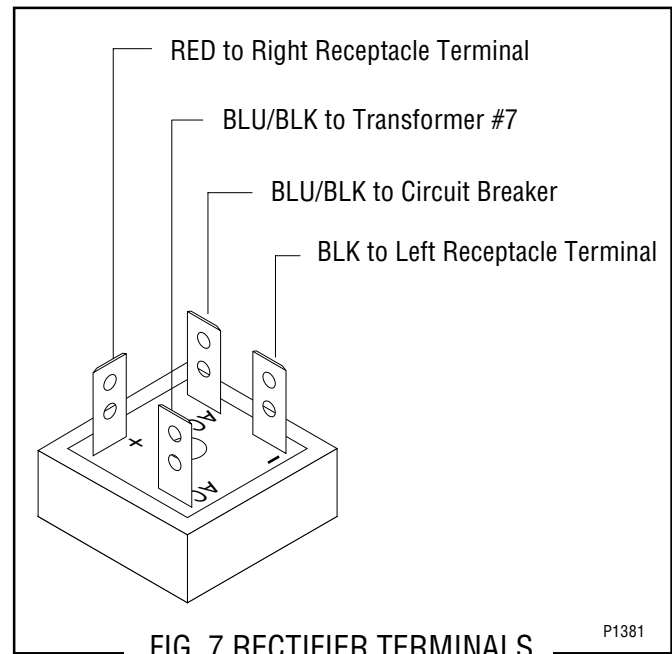

FIG. 7 RECTIFIER TERMINALS
5. Refer to Fig 7 and reconnect the wires.